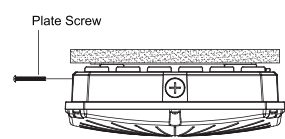

Figure 5
- Secure the fixture to the mounting plate by fastening back the plate's screw and installation is complete (Figure 5).